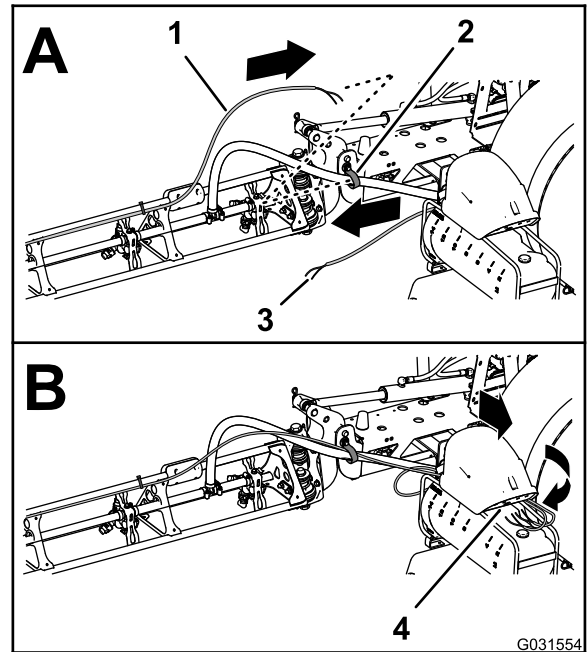

Figure 212
1. Route the tubes for the foam nozzles at the left and right boom section inboard and through the R-clamp near the pivot point for the boom section (Figure 212).
2. Route the tubes forward along the inboard side of the compressor for the tank (Figure 212).